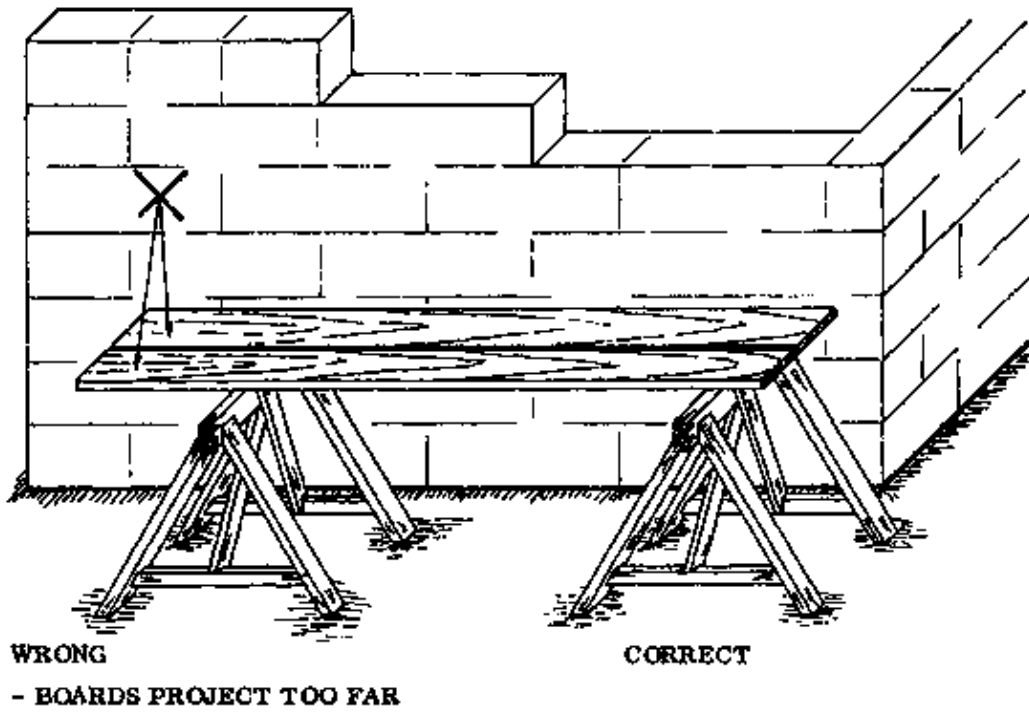

Fig. 2
– **TRESTLE SCAFFOLD:** This is a low-level scaffold, consisting of wooden trestles covered by two or three boards (Fig. 2). A trestle is a horizontal beam of wood with two legs on each end. Two or more of them are used to support the boards. Set them on firm, level ground, no further than 1,5 m apart. The height of the trestles can be from 75 to 100 cm. Small quantities of blocks and mortar can be kept on the platform. This scaffold enables the worker to continue walling up to lintel height, and to erect the formwork of the lintels.